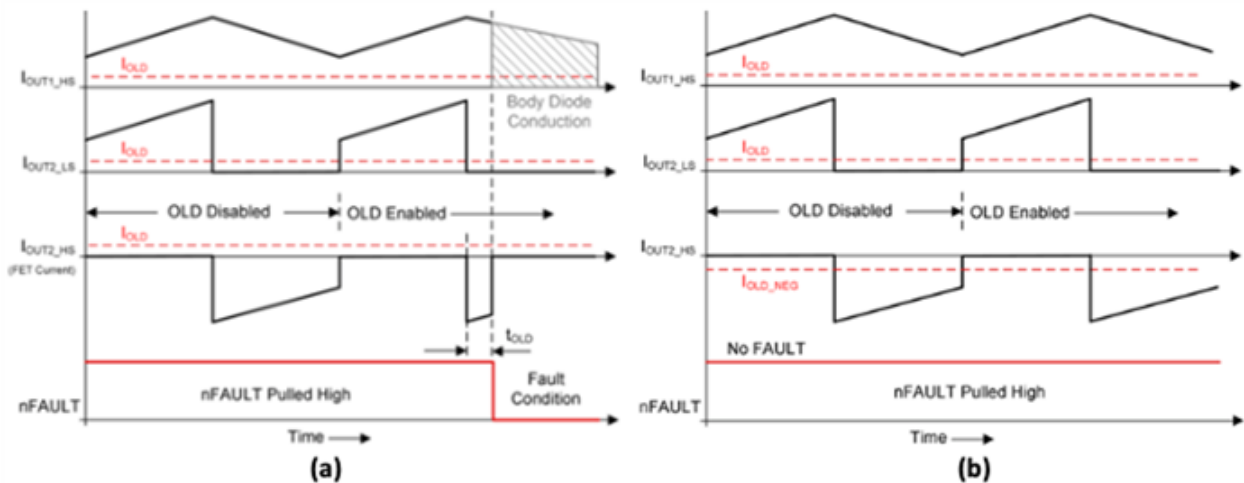

Figure 5. False OLD flag during high-side current recirculation with (a) and without (b) negative-current enabled
- **Negative-current active OLD.** When the current OLD threshold is negative, this diagnostic uses the current recirculating through either the body diode of the recirculation FET or the FET itself to prevent a false OLD flag seen in active OLD. Figure 5 shows the false flag occurring with negative current enabled in Figure 5a, and the flag prevented without negative current enabled in Figure 5b.